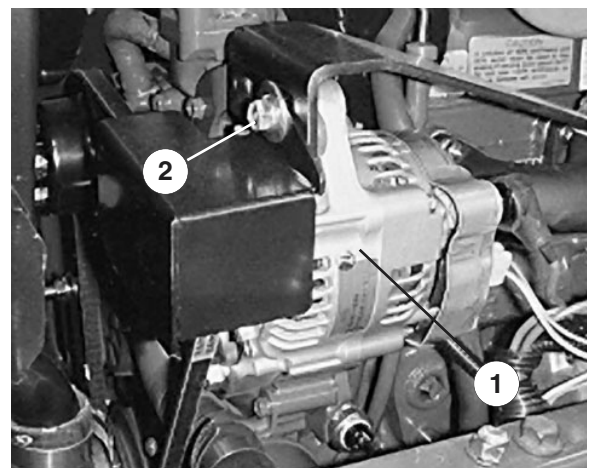

Figure 31
2. Proper tension will allow $\frac{3}{8}$ in. (10 mm) deflection when a force of 10 lbs. is applied on the belt (Fig. 31) midway between the pulleys.